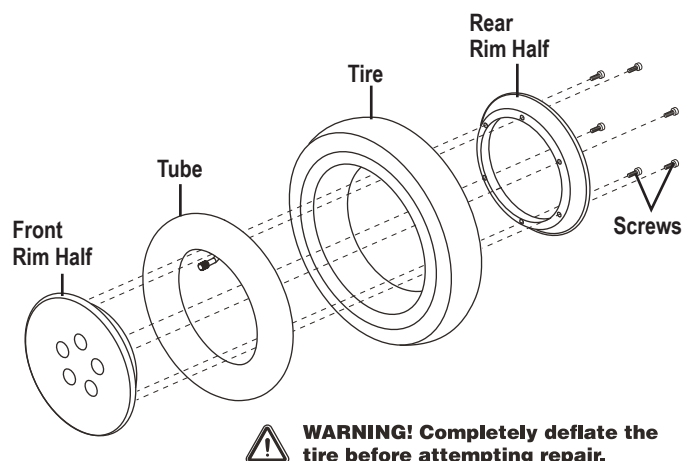

Figure 14. Drive Wheel Disassembled
6. Remove the screws and separate the front and rear rim. **See figure 14.**
10. Reinstall the hubcap, if equipped, then reinstall the three (3) or five (5) lug nuts onto the wheel hub and tighten.